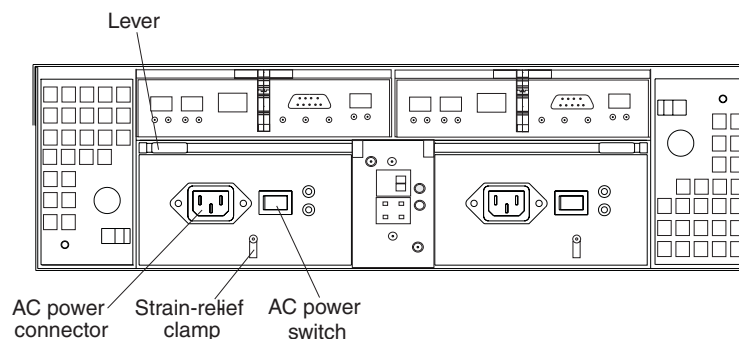

Figure 69. Connecting the power cord to the AC power connector
5. Connect the power cord to the AC power connector. See Figure 69.